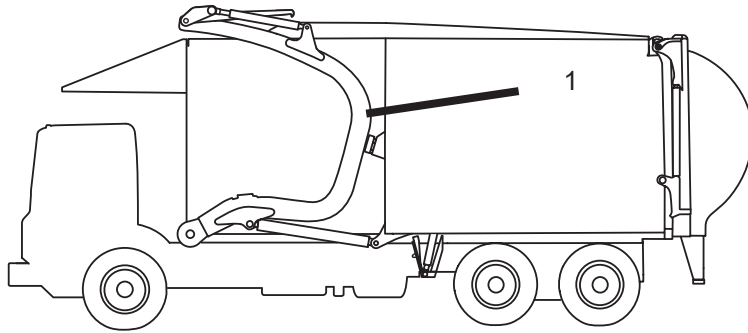

Figure 1
4. Ensure the fork arms are still in the fully retracted position (Figure 1).